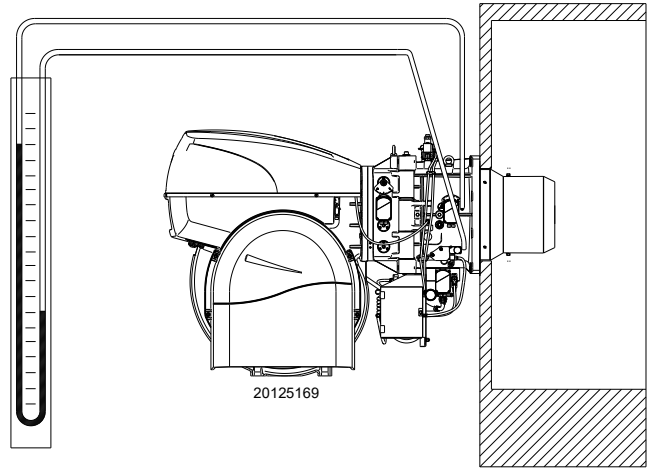

Fig. 35
- Fit a U-type pressure gauge or a differential pressure gauge (Fig. 35), with socket (+) on the gas pressure of the pipe coupling and (-) in the combustion chamber. The manometer readings are used to calculate MAX burner output.
The arrival of gas at the sleeve is indicated by the U-type manometer (Fig. 35).